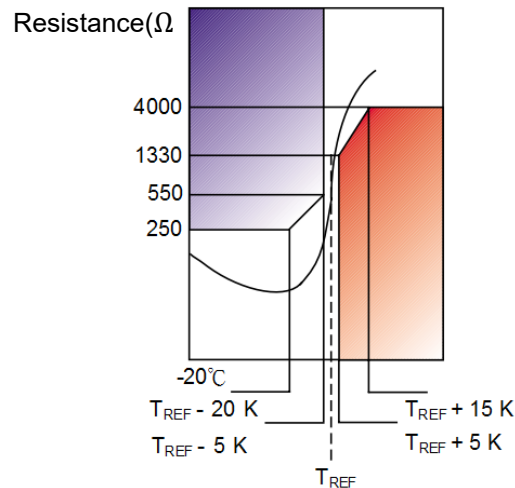

Figure 5.2.28 Relationship between PTC temperature and resistance
PTC100 and PTC120(130) are thermistors. Their output resistance changes according to coil temperature. Resistance of PTC100 rises drastically when  $T_{\text{REF}}=100^{\circ}\text{C}$ , while resistance of PTC120(130) rises drastically when  $T_{\text{REF}}=120(130)^{\circ}\text{C}$ . Their features are given in Table 5.2.9 and Figure 5.2.28.
To protect the motor windings against thermal damage, every motor is equipped with a triple positive temperature coefficient (PTC) sensor, type SNM120/130 (in accordance with DIN 44082-M180). Since the degree of heating of the individual motor phases can be very different, a PTC sensor is fitted in each phase winding (U, V and W). Each PTC element has a “Quasi-switching” characteristic, i.e. the resistance suddenly increases close to the rated temperature (switching threshold, Figure 5.2.28). Due to its low heat capacity and good thermal contact with the motor winding, the PTC reacts very quickly to a rise in temperature and, in conjunction with additional protective mechanisms on the control side, ensures reliable motor protection against overload. The PTC elements located in every phase winding in HIWIN motors are wired in series; they connect via two wires. With TMRW/TM-5/IM-2 there is an additional temperature circuit with positive temperature coefficient (PTC), type PTC 100, for redundant use or to distinguish between warning and danger temperatures.